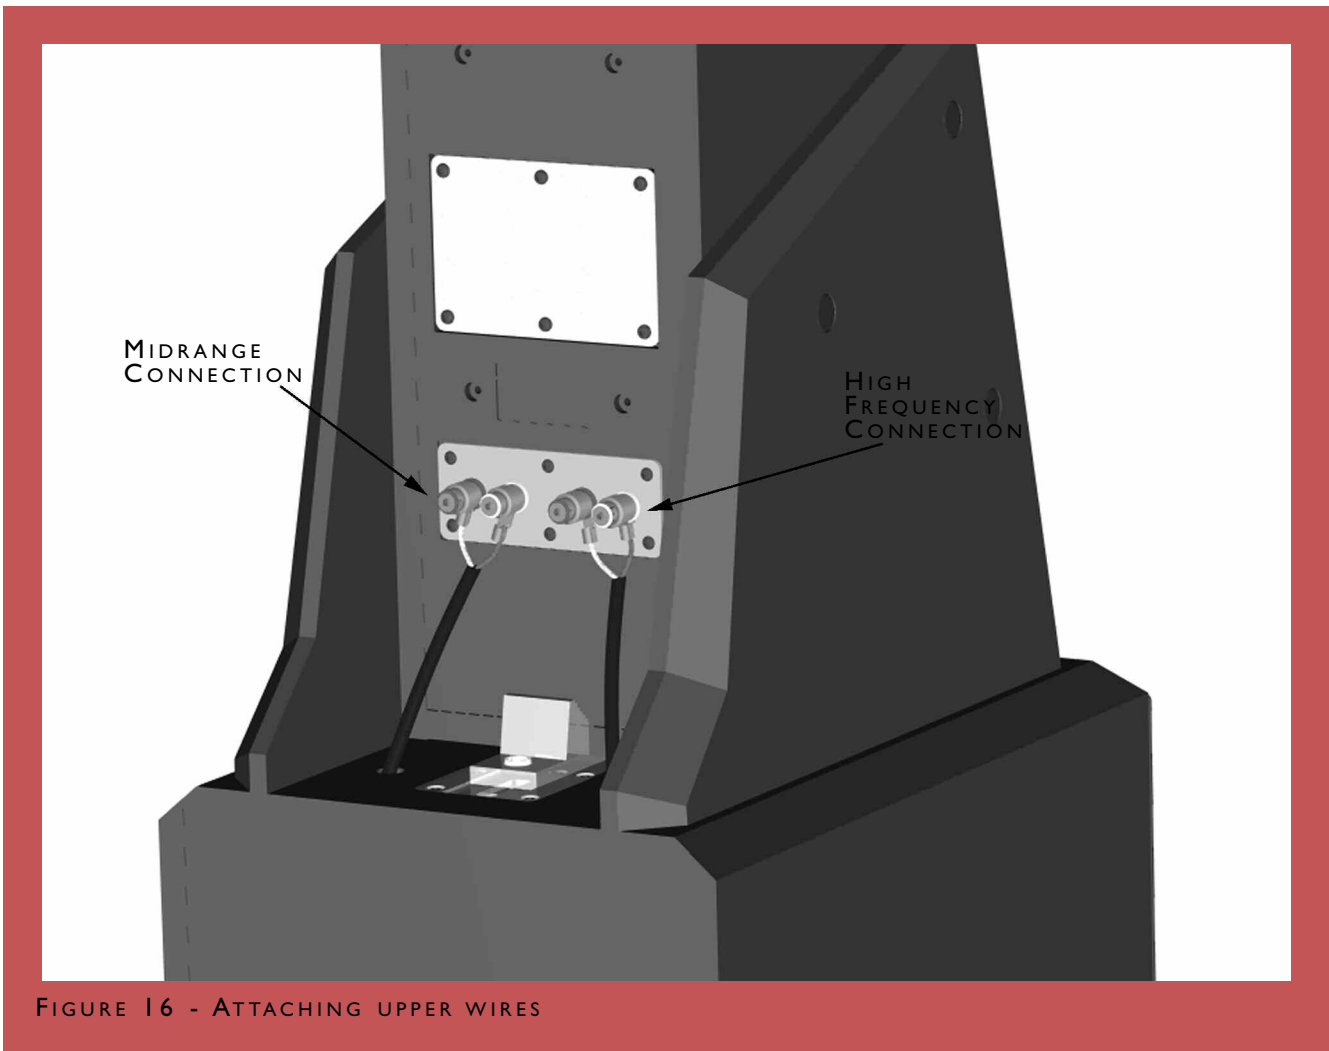

FIGURE 16 - ATTACHING UPPER WIRES
- Connect the wire exiting the right side of the woofer cabinet to the right side terminal pair labeled High-Frequency (see Figure 16).